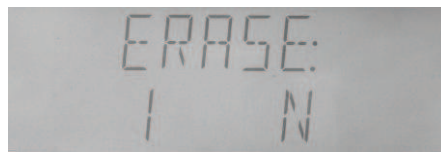

Figure 4-29 Erasing file
- a) Select "ERASE" at file operation page through 【 ◀ 】 or 【 ▶ 】 key, as shown in Figure4-29.